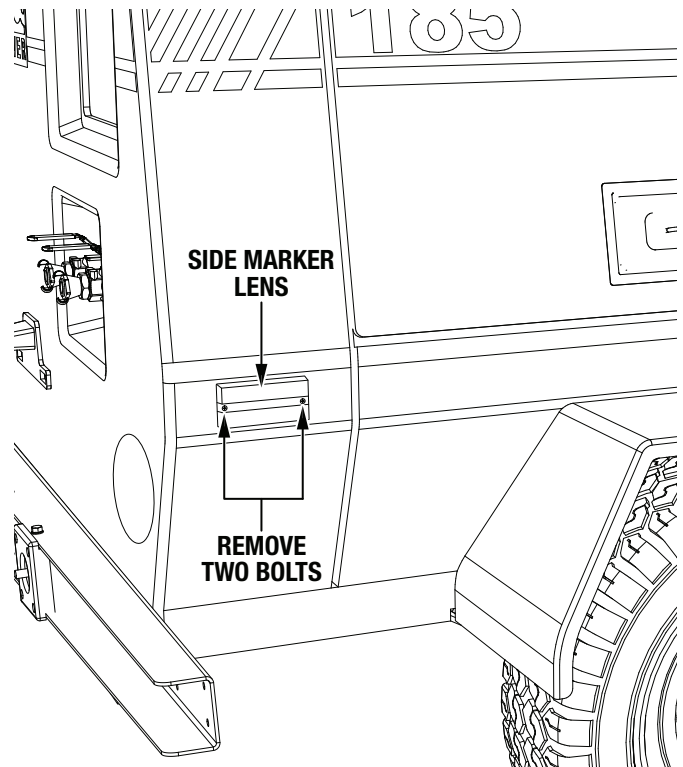

Figure 8. Side Marker Lens Removal
2. **On the fuel tank side** of the air compressor, remove the two bolts securing the rear side marker lens (Figure 8) to the frame. Set the lens and foam backing aside and discard the bolts.